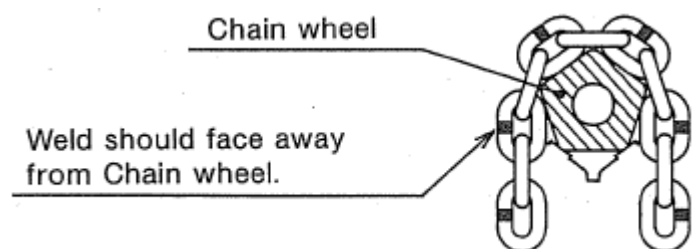

Fig.3
- Check that the welds on Load chain are faced away from the center of Chain wheel (See Fig. 3).